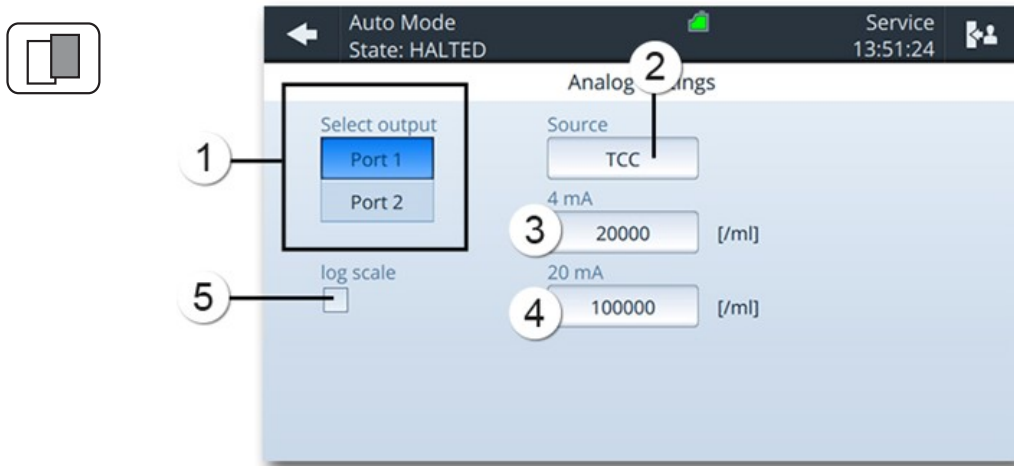

Figure 2-4 Analogue output settings
4.	Choose Port 1 or Port 2 (figure 2-4)
5.	Choose the source (figure 2-4, position 2).